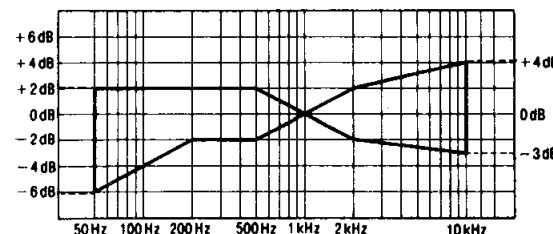

Fig. 11
4. Play back the test signals just recorded and verify that the levels at the test frequencies fall in the ranges specified in Fig. 11 with respect to the reference signal level.